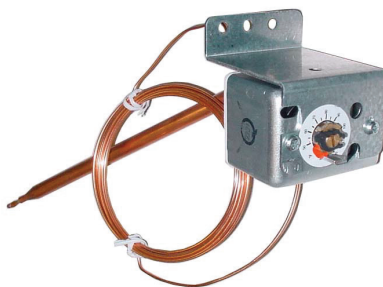

Figure 18. Unit-Mounted Ductstat
- **Ductstat with capillary tubing (option AG3):** The unit-mounted ductstat (see Figure 18) has an adjustable range of 0°F to 100°F (–17.8°C to 37.8°C) with a fixed differential of 3°F (1.7°C). The sensor is factory-set at 70°F (21.1°C). Due to different CFM settings and outside air temperatures, the average downstream outlet temperature may not match the ductstat setting exactly. After the installation is complete, adjust the setpoint of the ductstat to achieve the desired average outlet air temperature.